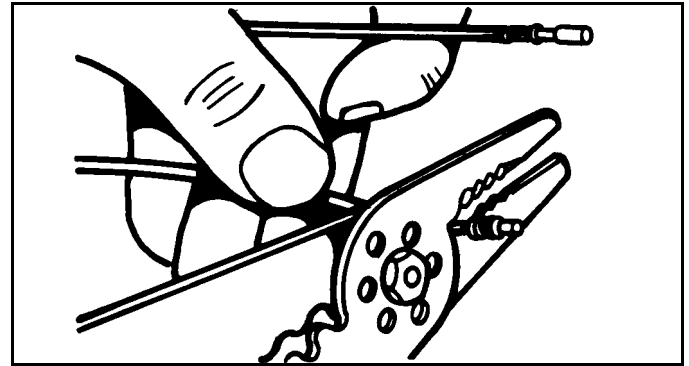

Figure 3-17
2. Use universal electrical pliers to remove wire as close as possible to old contact. (See Figure 3-17)